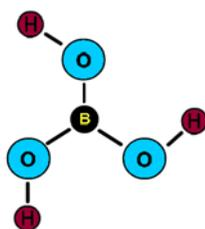

Figure 7
- H_3BO_3 – chemical formula for boric acid. Composed of three hydrogen, one boron, and three oxygen atoms. (Figure 7)